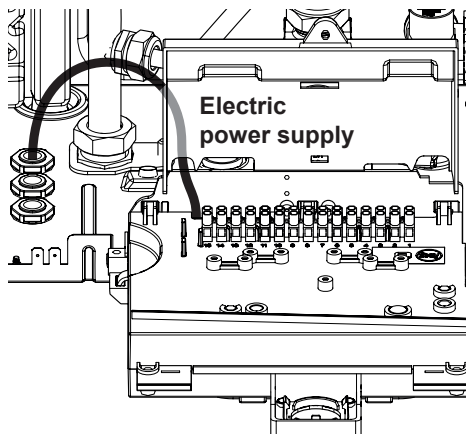

Fig. 6.18
- Connect the electric power supply cable coming from the fused spur isolation switch to the power supply terminal block of the boiler Fig. 6.18 keeping the same connections for the live (brown wire) and the neutral (blue wire). External 3A fuse or fused plug with same current rating is recommended.
Use the clamps indicated in Fig. 6.18 to connect the ambient thermostat.